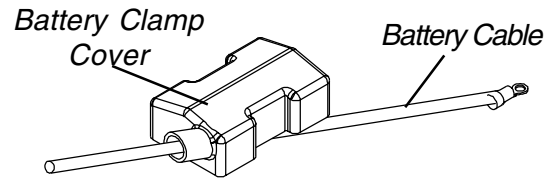

FIGURE 5 - CONNECTING BATTERY CABLES - BATTERY CLAMP METHOD
The battery clamp of the POSITIVE (+) battery terminal/post MUST be mounted in the position shown in FIGURE 5, otherwise the battery box top cannot be installed properly.
1. Perform one (1) of the following:
- A. If the battery clamp of the POSITIVE (+) battery terminal/post is **NOT** mounted in the orientation shown in FIGURE 5, perform the following:
2. Install battery clamp covers onto battery cables as follows (FIGURE 5):